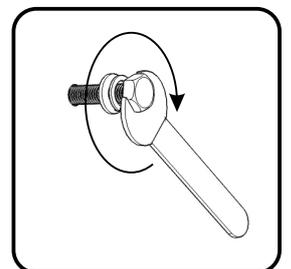

Figure 2
Attach Seat (A) to unit with Round Flat Washers, Spring Washers (small) and Bolts (large), tightening bolts only halfway. (See Figure 2)